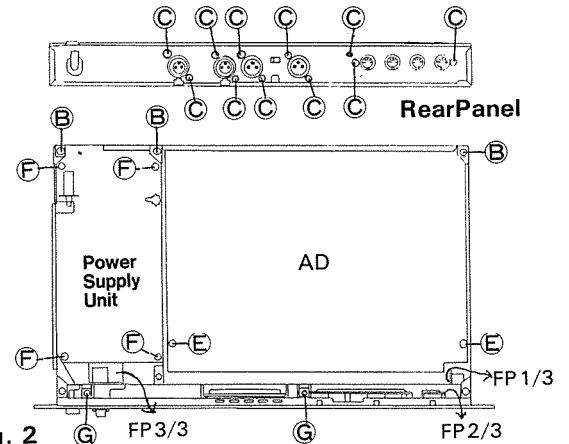

Fig. 2
- (1) Remove the top cover. (Refer to 1. Removal of Top Cover)
- (2) Remove the rear panel. (Fig. 2, 3)
- (3) Remove the 2 screws **E** (3 × 6 bind tapping screw) and disconnect all connectors on the AD circuit board, and remove the AD circuit board. (Fig. 2)
- (2) Remove the 4 screws **F** (3 × 6 bind tapping screw) and disconnect 2 connectors on the power supply unit, and remove the power supply unit. (Fig. 2)
- (2) Remove the front panel. (Fig. 2, 3)